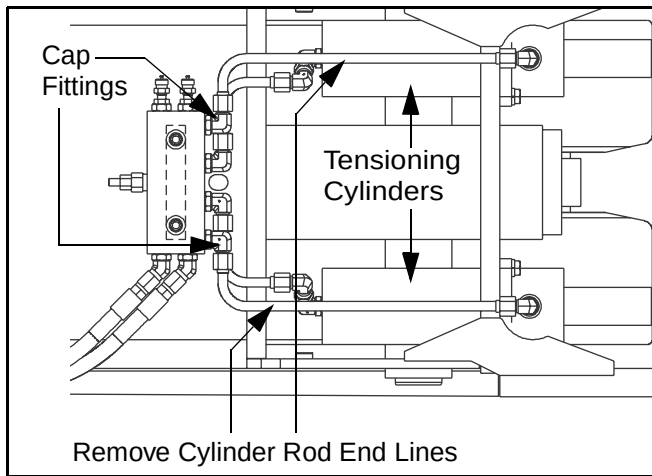

Figure 5 - 45 Track Tensioning Cylinders
- 1) With engine off, remove lines from tension release valve to the rod ends of the cylinders (Figure 5 - 45).
- 1) Install pressure gauge (3000 psi) at test ports marked BTM and ROD on the tension release valve (Figure 5 - 44).